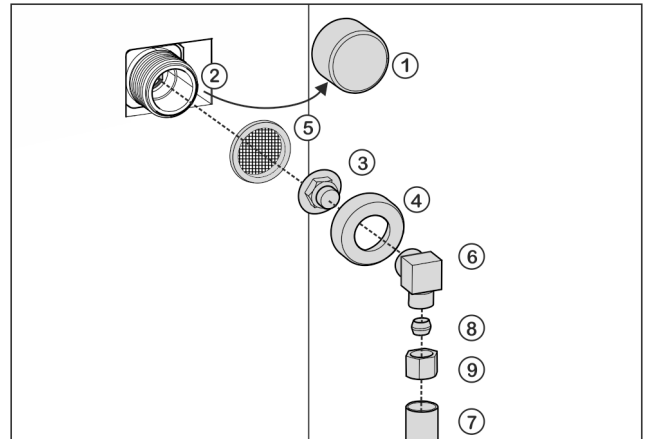

Fig. 21
- ▶ Remove the cap *Fig. 21 (1)* from the solenoid valve *Fig. 21 (2)*.
- ▶ Insert the coupler *Fig. 21 (3)* into the union nut *Fig. 21 (4)*.
Improper installation of the water filter *Fig. 21 (5)*!
- ▶ Insert the water filter *Fig. 21 (5)* with the recess pointing down towards the coupler *Fig. 21 (3)*.
- ▶ Attach the union nut *Fig. 21 (4)* to the solenoid valve *Fig. 21 (2)* and tighten.
- ▶ Screw on the angle piece *Fig. 21 (6)*.
- ▶ Connect the water hose *Fig. 21 (7)* (e.g. copper) to the angle piece *Fig. 21 (6)* using the clamp ring *Fig. 21 (8)* and nut *Fig. 21 (9)*.
- ▶ Attach the water hose *Fig. 21 (7)* to the housing if possible, using the clip bracket.
- ▶ Put the angle piece *Fig. 21 (6)* to the side.
- ▶ Connect the water hose *Fig. 21 (7)* (e.g. copper) to the connecting piece *Fig. 21 (3)* using the clamp ring *Fig. 21 (8)* and nut *Fig. 21 (9)*.